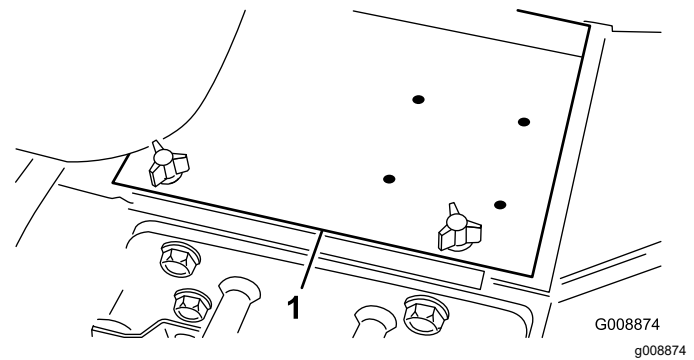

Figure 3
2. Remove the battery cover (Figure 3).